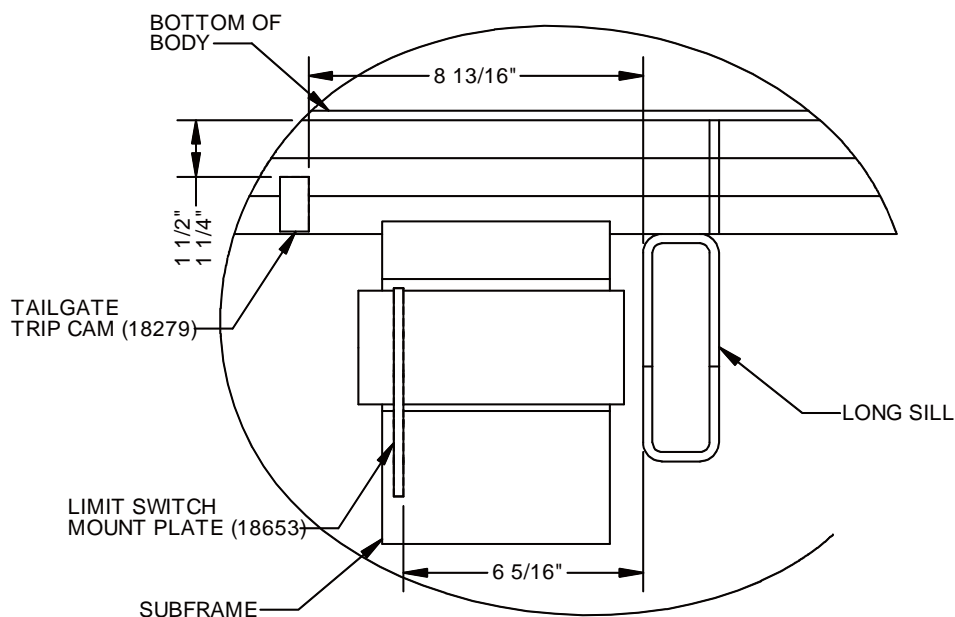
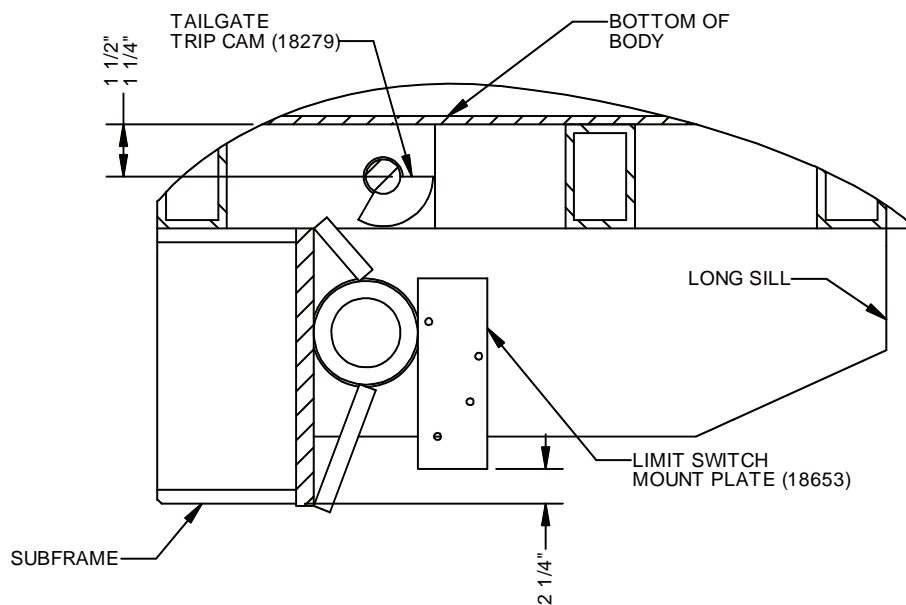

Figure 1 – 12 and 14 Foot Limit Switch Mount Plate/Cam Location
Figure 3 – 14 Foot Side View Limit Switch Mount Plate/Cam Location
3. Position the limit switch mount plate (18653) on the subframe and the tailgate trip cam (18279) on the tailgate latch rod and weld in place. Refer to Figures 1 through 3 for location details. Note the length of the subframe. The position of the limit switch mount plate (18653) is different for 12 and 14 foot subframes. Refer to Figure 3 and Figure 4.